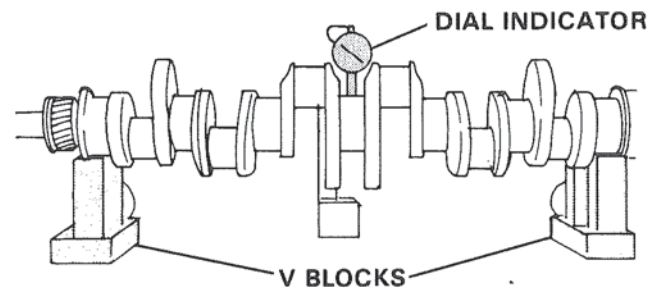

Figure 32. Checking Crankshaft Straightness.
2. Measure at center main using a dial indicator. Figure 32.